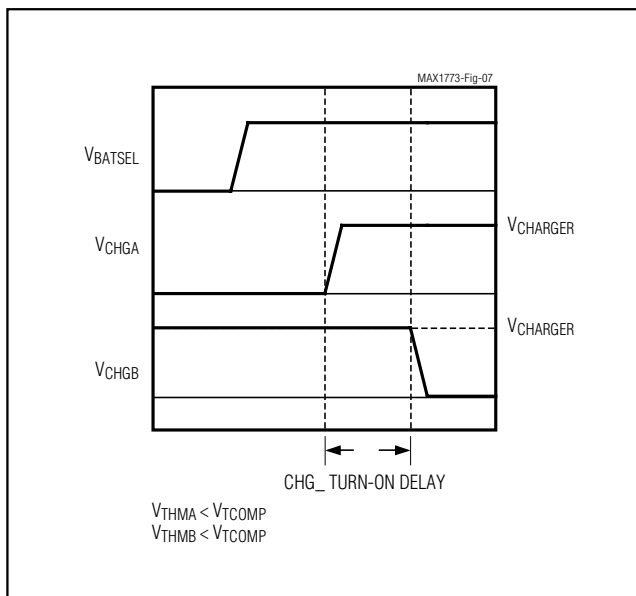

Figure 7. Charge Turn-On Delay (Battery A to Battery B)
**Note 11:** CHG\_ Turn-on Delay begins when  $V_{CHG\_}$  of the battery being switched from begins to rise and ends when  $V_{CHG\_}$  of the battery being switched to begins to fall (Figures 7 and 8).